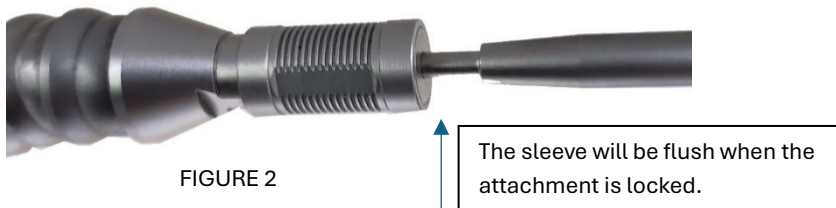

FIGURE 2
- Release the sleeve to its original position to lock in the Reusable Surgical Assist Attachment. The sleeve must be completely forward and flush with the connector (see Figure 2).